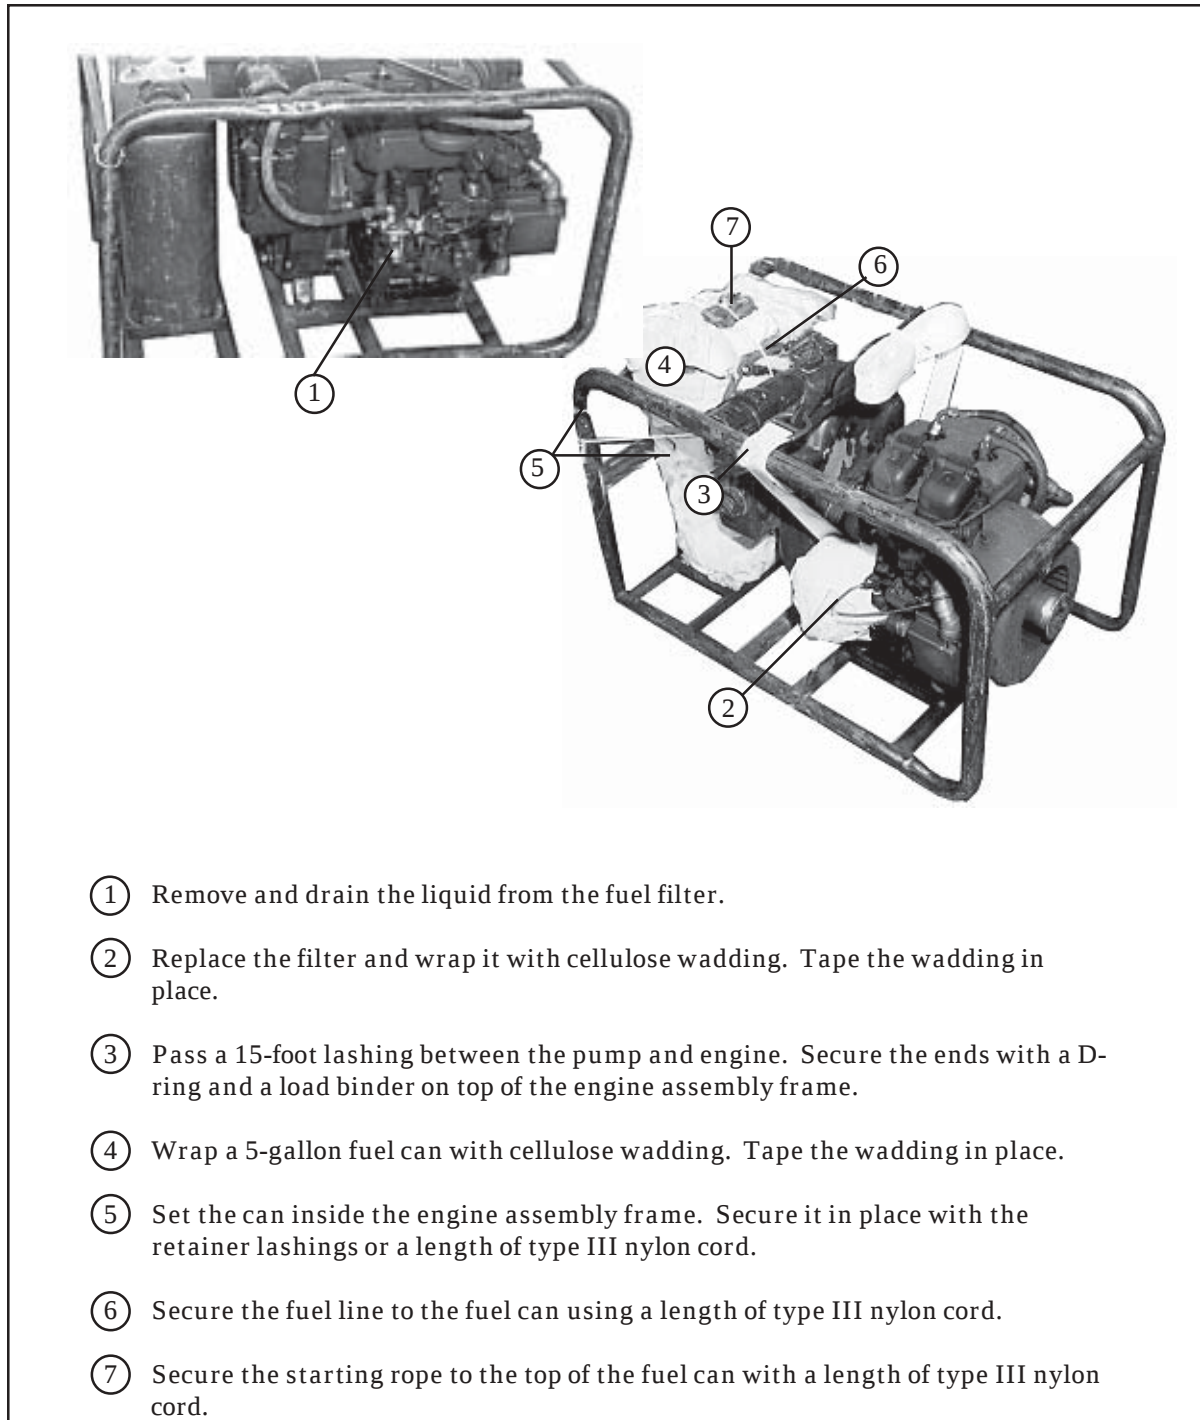
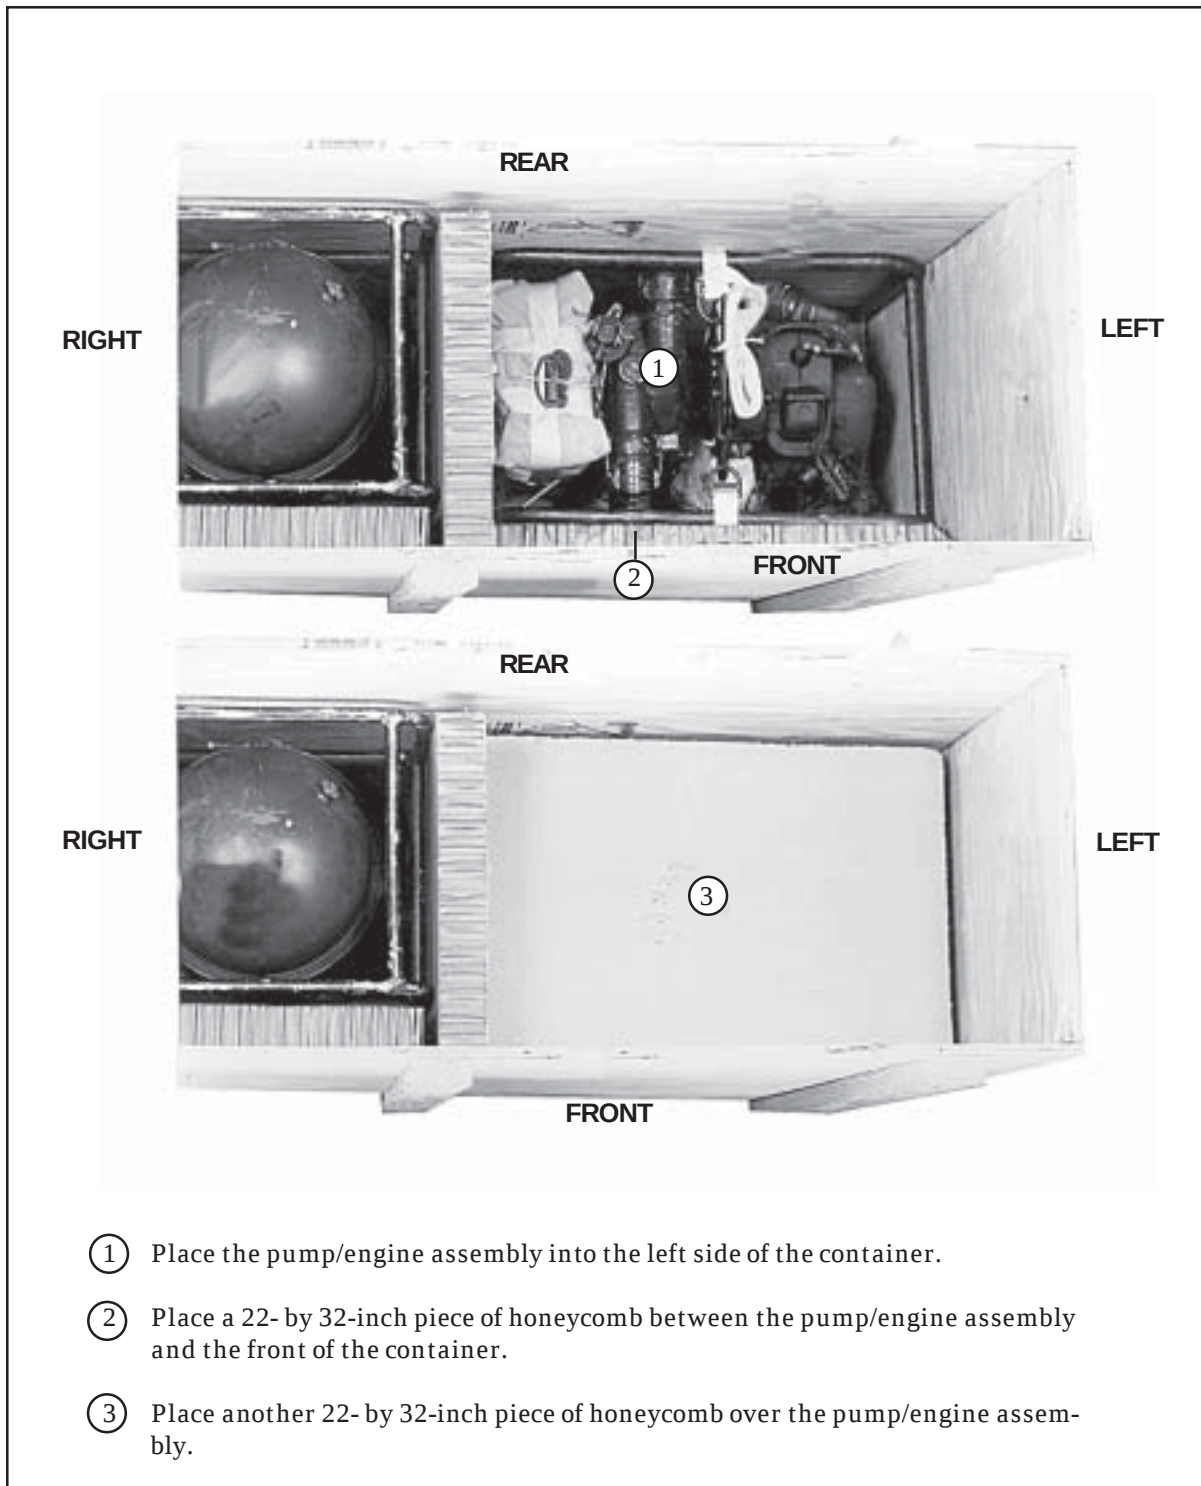

Figure 1-9. Pump/Engine Assembly Prepared
Figure 1-10. Pump/Engine Assembly Stowed
c. PREPARING PUMP/ENGINE ASSEMBLY. Prepare the pump/engine assembly for stowing as shown in Figure 1-9 and stow it in the container as shown in Figure 1-10.